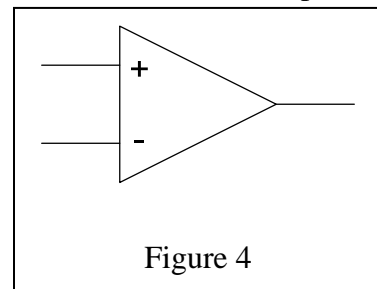

Figure 4
**The comparator op-amp circuit.** A comparator is an operational amplifier circuit configured to operate at saturation, in other words the output of the op-amp is either full on (full positive) or full off (full negative or zero). The comparator does what the name implies, it compares the relative values of the input voltages and will provide a corresponding output of one allowed state or the other. There are two inputs to the comparator, the non-inverting input labeled with a +, and the inverting input labeled with a - (see figure 4). There is a truth table